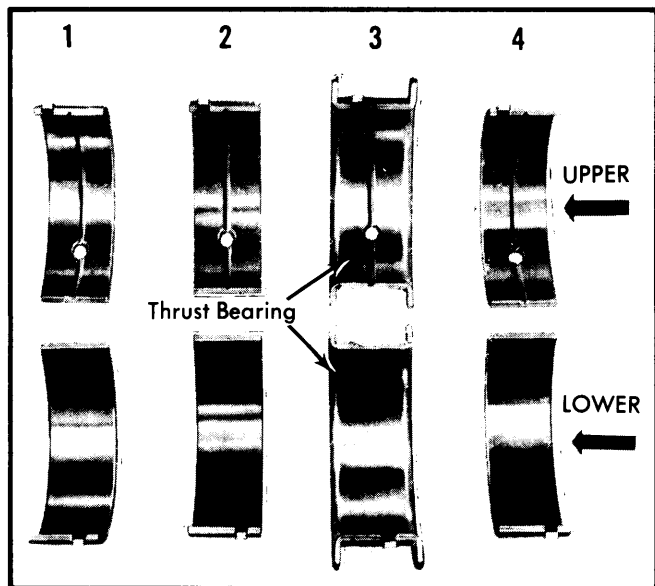

Fig. 11 Main Bearing Identification Showing Location of Thrust Bearing
2) Upper main bearings are grooved and lower main bearings are plain and are not interchangeable. Lower main bearings one, two and four are interchangeable. Upper main bearings one, two and four are interchangeable. The number 3 upper and lower main bearings are flanged to carry thrust loads and are not interchangeable with any other bearing. See Fig. 11.